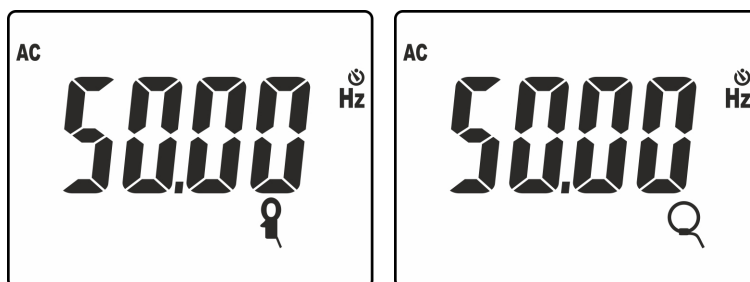

Fig. 38: Result of frequency measurement with standard and flexible clamp
9. Press key **MODE/MXMNPK** to display the value of frequency of AC current with a high resolution (see Fig. 38).